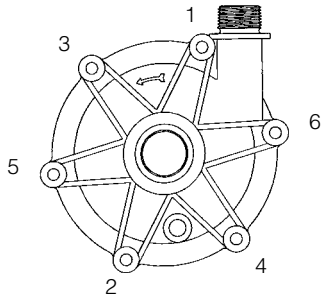

Figure 3
5. Place wet end assembly (comprised of items 1-9) into the motor adapter (item 11). Grasping the barrier at opposite bolt tabs, carefully lower the wet end assembly into the motor adapter/drive assembly. Line up the tabs of the wet end between the tabs on the motor adapter to avoid pinching fingers. Once seated, rotate the wet end until bolt holes line up.
6. Align mounting holes and install 6 mounting screws and washers (items 12A, 12B & 12C) from hardware package. Hand tighten screws using pattern shown in Figure 3.
7. Install and lubricate the housing o-ring. Coming straight down, gently place the impeller housing (item 1) onto the pump with the ceramic front spindle support sliding into the bushing on top of the first stage impeller assembly (items 2 and 3). Orient the housing with the directional arrow on top, the drain boss location on the bottom and with the mounting holes aligned. Install the six mounting bolts, washers, and lock washers (items 12A, 12B, and 12C). Make sure the housing o-ring is not dislodged or pinched. Hand tighten the mounting bolts to pull the pump together using the pattern shown in figure 3.